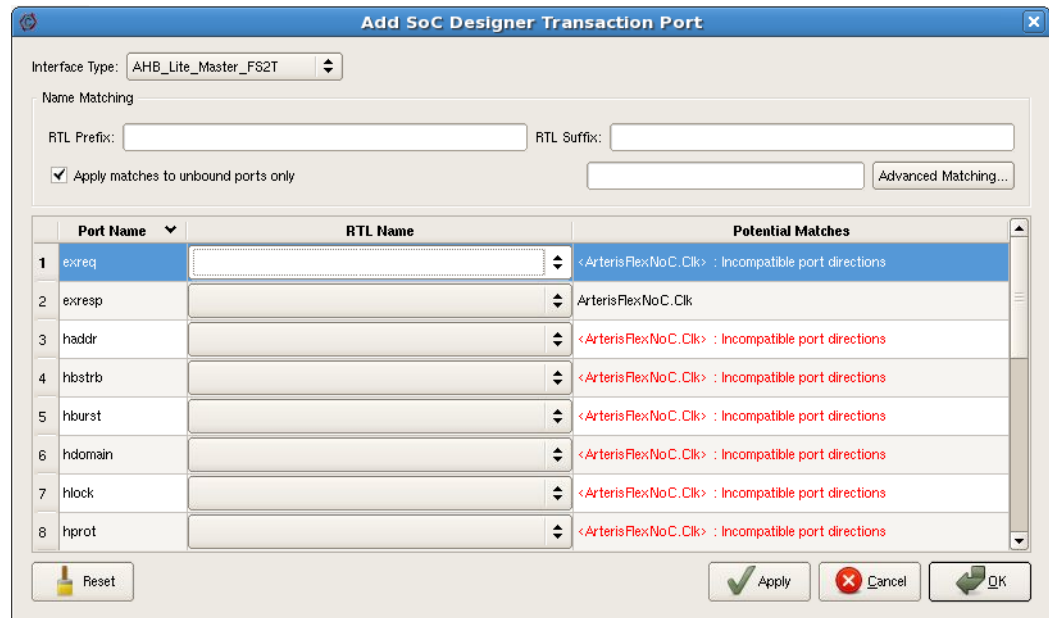

Figure 4-17 Add Port dialog
1. In the *Ports Toolbar*, click the **Add Transactor** button (for Platform Architect, the button is **Add Protocol**). The Add Port dialog appears (Figure 4-17).